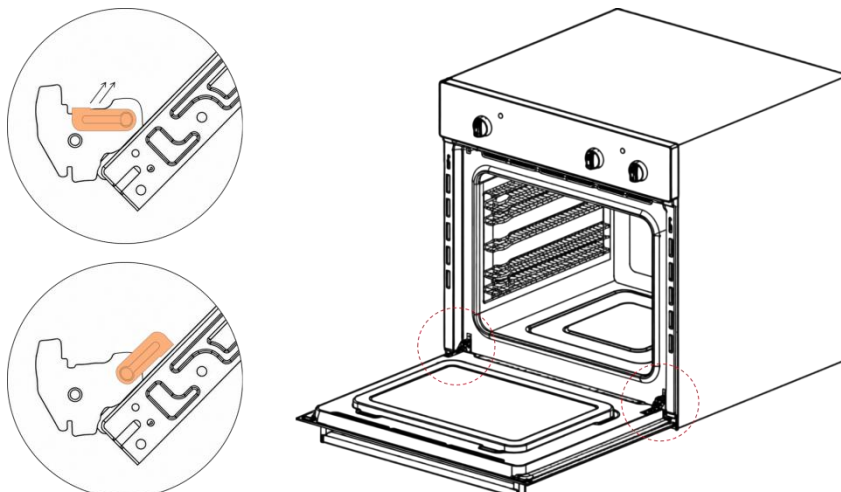

Figure 1
1. Fully open the oven door (Figure 1).
2. Push up the oven door locking mechanism to unlock (Figure 1).